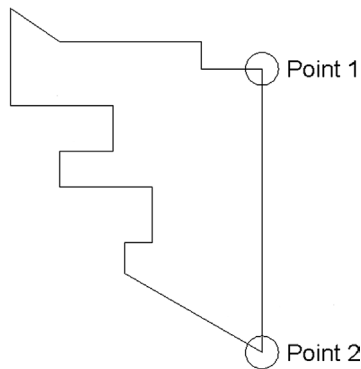

FIGURE 24.2 Selecting rotation axis.
Step 3. Here, AutoCAD is asking for an axis of revolution for the profile. This can be addressed in many ways, and the axis can be on the object or some distance away from it (causing the revolved solid to have a hole about the axis). For this example, we pick two points at the top right and bottom right of the profile, as seen in Fig. 24.2. Using the endpoint OSNAP, click on these two locations.